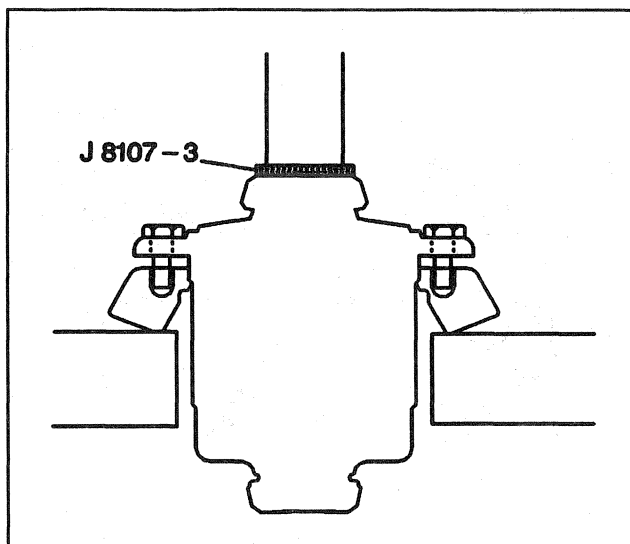

Figure 14—Installing the Ring Gear to Case
5. Ring gear to the differential (Figure 14).